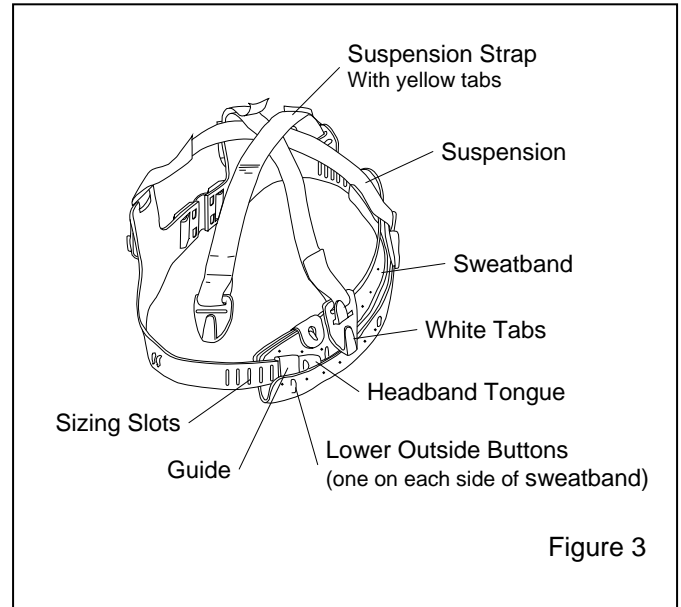

Figure 3
- 6.1.2** Unfasten the vinyl sweatband from the two lower, outside buttons, ref. Figure 3. It is not necessary to remove the suspension to make adjustments.